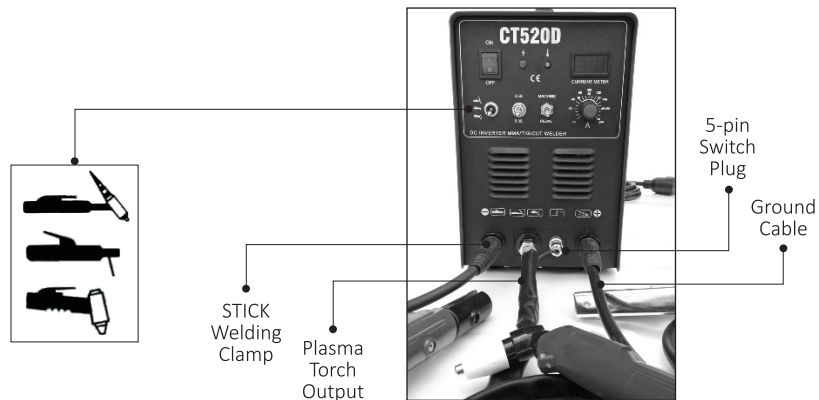

Figure 1.4
3. Connect your plasma cutting torch and ground cable to the front panel of the machine. Make sure the ground cable is connected on the right hand side where the "+" sign is located. (Figure 1.4)
- Set TIG Weld/Stick Weld/Plasma Cut switch to TIG Weld mode (refer to Figure 1.4, page 2).
- Set TIG Weld/Stick Weld/Plasma Cut switch to Stick Weld mode (refer to Figure 1.4, page 2).